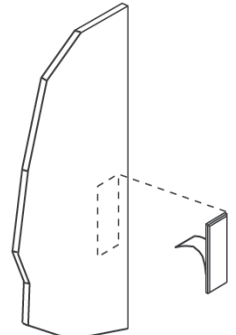

FIGURE 8
Attach mirror pull by peeling off the tape protection, as shown, and choose the desired height [approximately 40"(1016) high]. The pull should be located approximately 1/2"(13) in from the door edge (Figure 8).